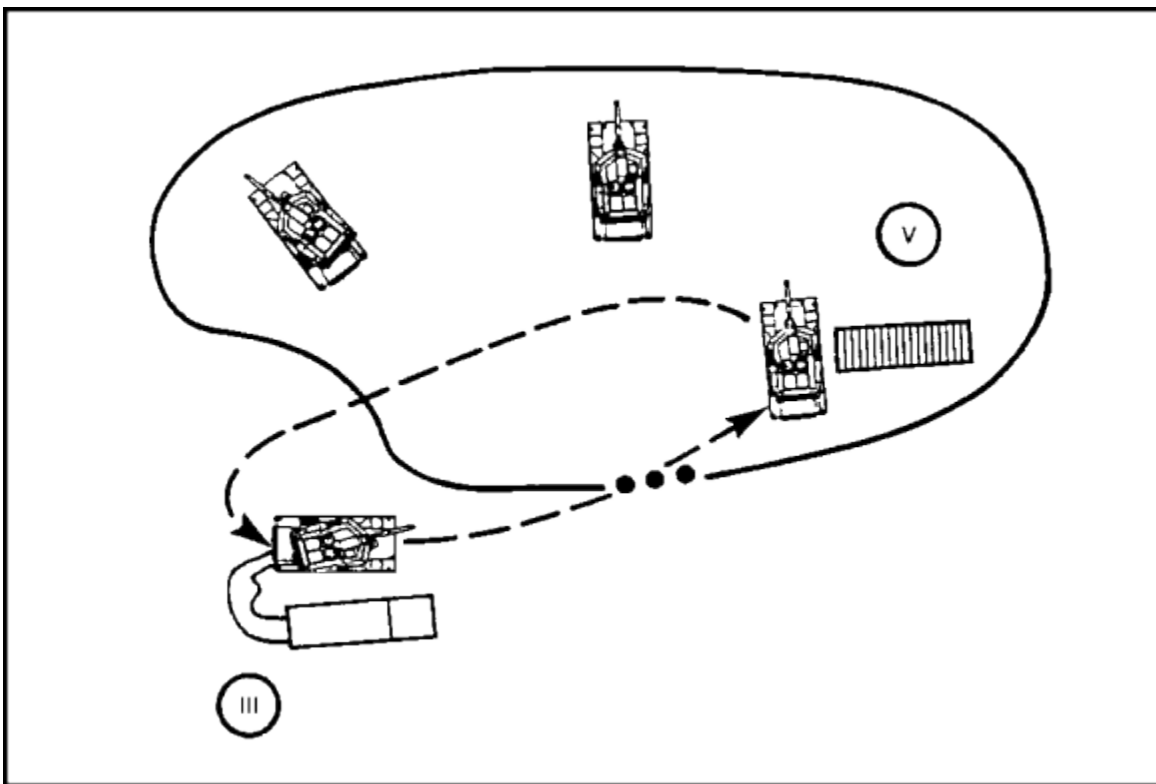

Figure 1-34. Prepositioning supplies (method 1)
- Method 1: Class V is located in one place inside the assembly area or battle position (Figure 1-34).